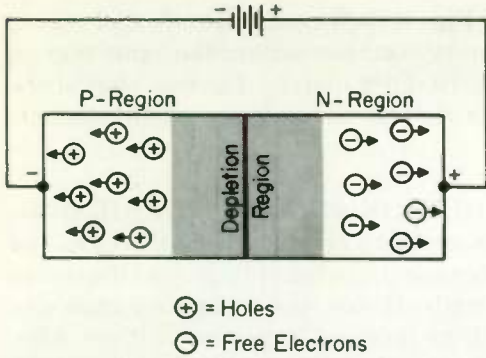

Fig. 17 Why with reverse bias there is no conduction by majority carriers.
21 THE REVERSE BIASED DIODE... A diode is reverse biased when the ^(132a) _____ terminal of a battery is connected to the P-region of the diode, and the other battery terminal to the N-region, as shown in Fig. 17. The figure shows that the holes in the P-region and the free electrons in the N-region move away from the junction under the attraction of the opposite charges provided by the battery. The result is to greatly widen the depletion region.
carriers in Fig. 17 tend to move away from the depletion region, the charges shown in Fig. 17 do not move through the depletion region. Hence there is no current flow.
The charge carriers shown in Fig. 17 are the majority carriers. Doped semiconductor materials also have a few minority charge carriers, which are not shown in Fig. 17. The minority charge carriers in the P-region are (132b) _____, and in the N-region (133) _____.